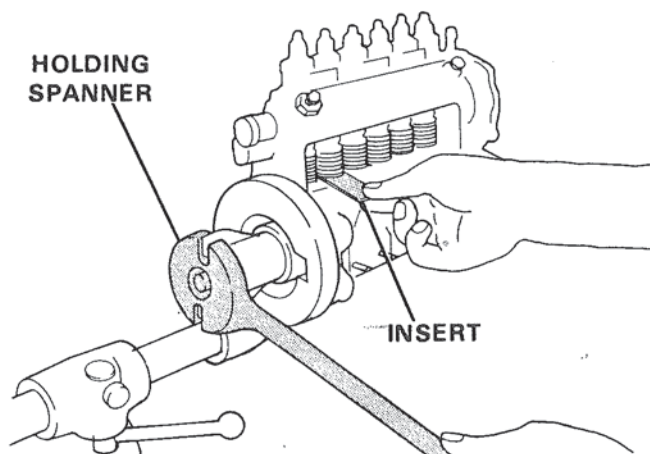

Figure 23. Installing Tappet Inserts.
- B. Turn camshaft so tappets move up. Insert tappet insert, Special Tool No. 95905-01008 into tappet service holes. Figure 23.